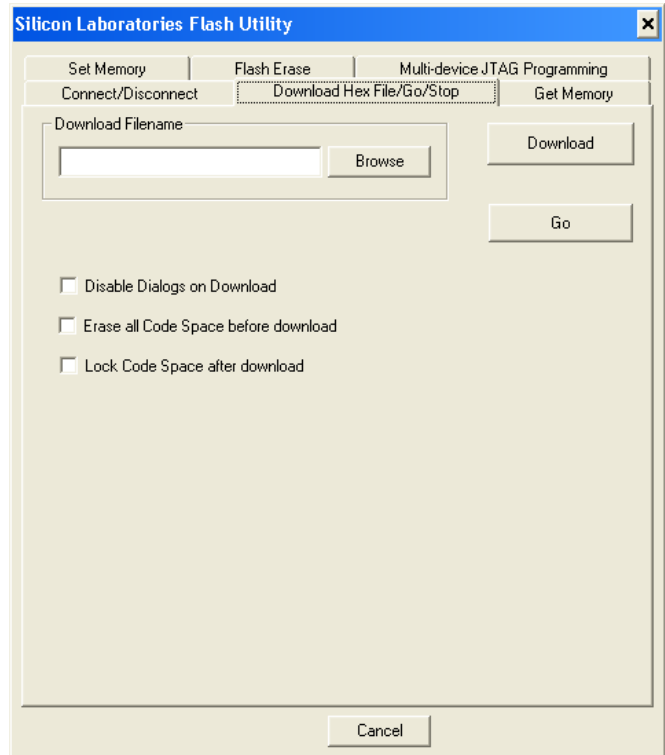

FIGURE 7. SILICON LAB USB DEBUG ADAPTER
3. Go to "Download Hex File/Go/Stop" tab. See Figure 7.